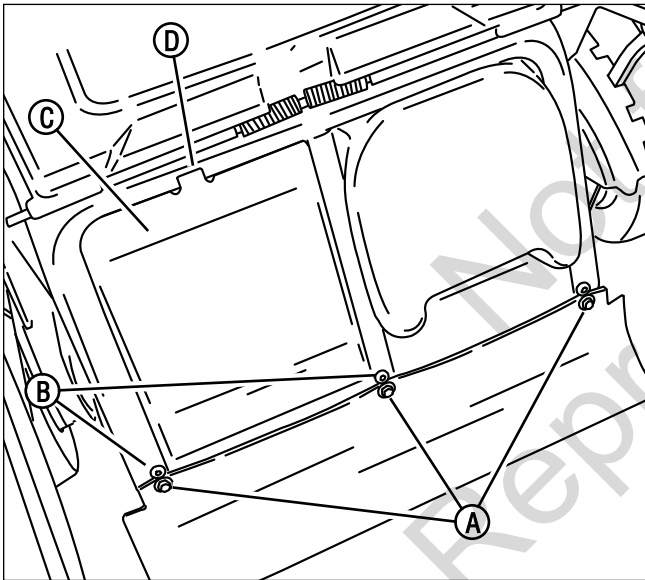

Figure 24: Removing the rear cover
1. Remove the three fasteners **(A, Figure 24)** securing the rear apron to the machine.